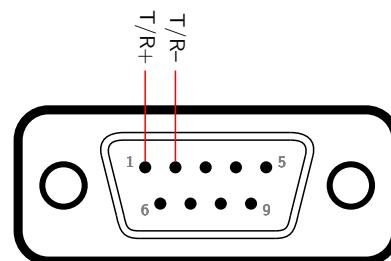
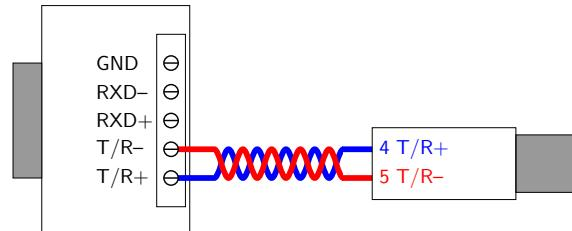

Figure 2.3: DB-9 female connector (solder side).2
Figure 2.4: DB-9 adaptor to DIN-6 wiring.2
1. Solder the pins on the female DB-9 connector as shown in Figure 2.3. Note that the pin numbers shown in the diagram are for the solder side of the connector. Alternatively, use a DB-9 adaptor with screw terminals, as shown in Figure 2.4.